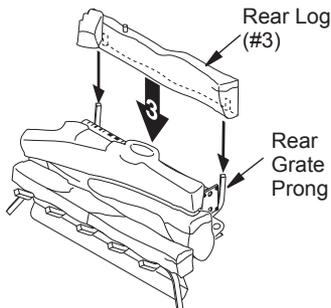

Figure 30 - Installing Rear Log (#3)
- Slide groove on back of rear log against the rear grate prongs. Make sure the peg on the log is on top (see Figure 30).